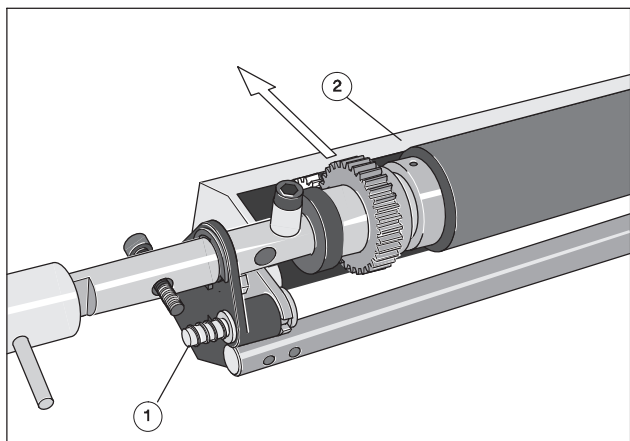

Fig. 55 Removing the washing fluid trough
1. Press in the pin on O.S. (Fig. 55/1) and D.S.
2. Press away the washing fluid trough (Fig. 55/2) in the direction of the arrow.